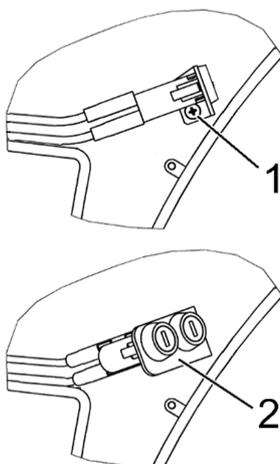

Fig. 15: Changing fuses (100-127V)
1. Unscrew the eight rubber feet (Fig. 15/ 1) and carefully remove the bottom plate under the rotary evaporator.
2. Remove screw (Fig. 15/ 1) and pull the fuse holder out .
3. Open the cover of the fuse holder with a screwdriver (Fig. 15/ 2), remove the damaged fuse and replace it with a new one (fuse specifications on chapter 4, page 12).
4. Close fuse holder (Fig. 15/2) and reinstall it (Fig. 15/ 1).